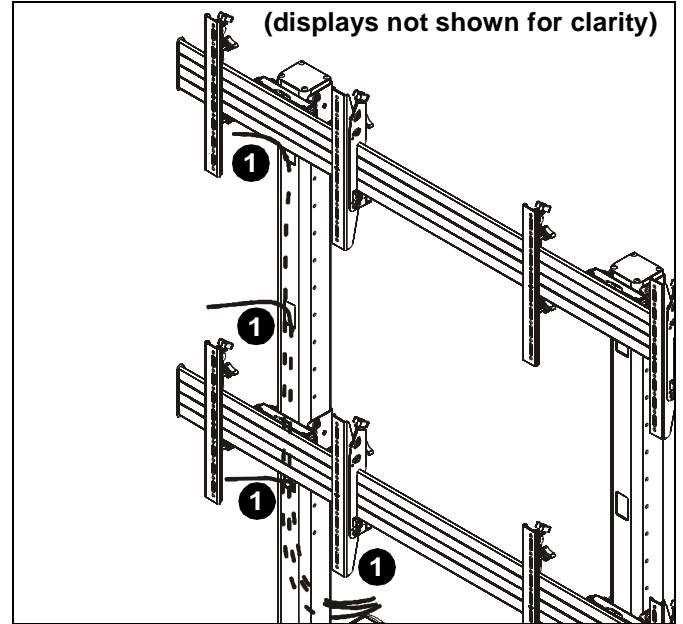

Figure 21
1. Route cables from displays through nearest holes on front of columns and out through back cable management hole. (See Figure 21)